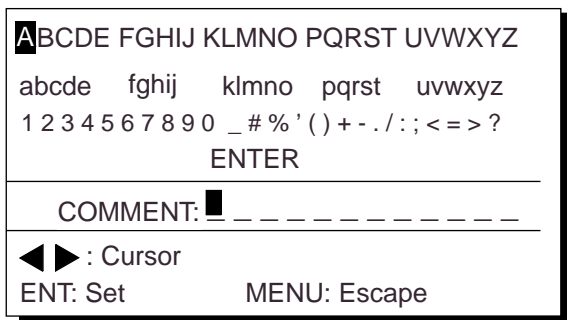

Figure 4-5 Screen for entry of comment for waypoint
8) Press the [NU/CU ENT] key. The display shown in Figure 4-5 appears.